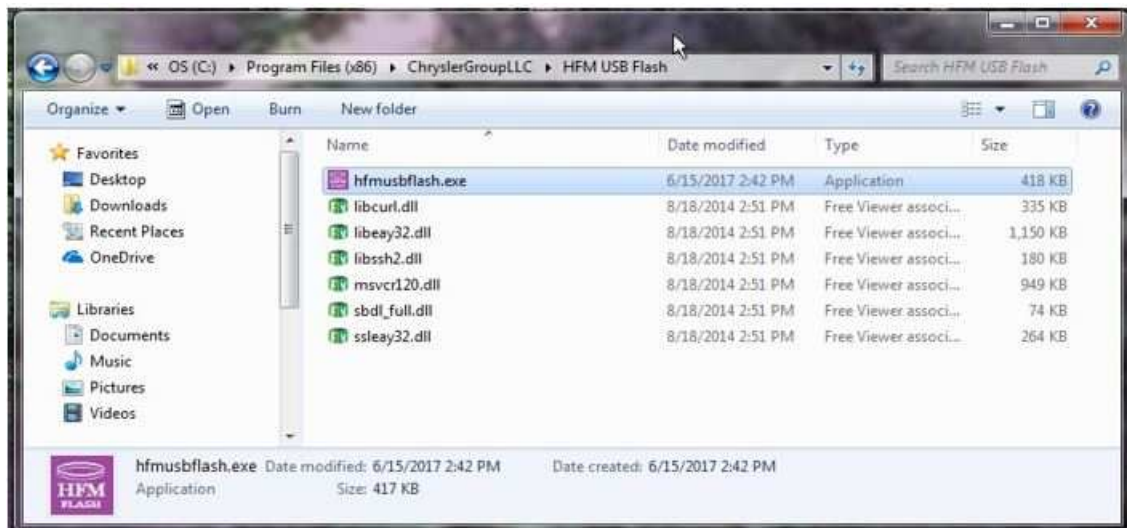

Fig. 3
4. After extracting the files, run the installation procedure for the PC flash application by double clicking on “HfmUsbFlash_Install_1.16.exe” and follow the instructions that are provided (Fig. 3) . Again, this application only runs on the WINDOW OS. You will need a PC running Windows 7 or Windows 10.